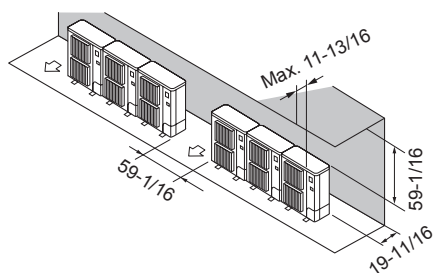

Fig. 2-13
② Obstacles at rear and above (Fig. 2-13)